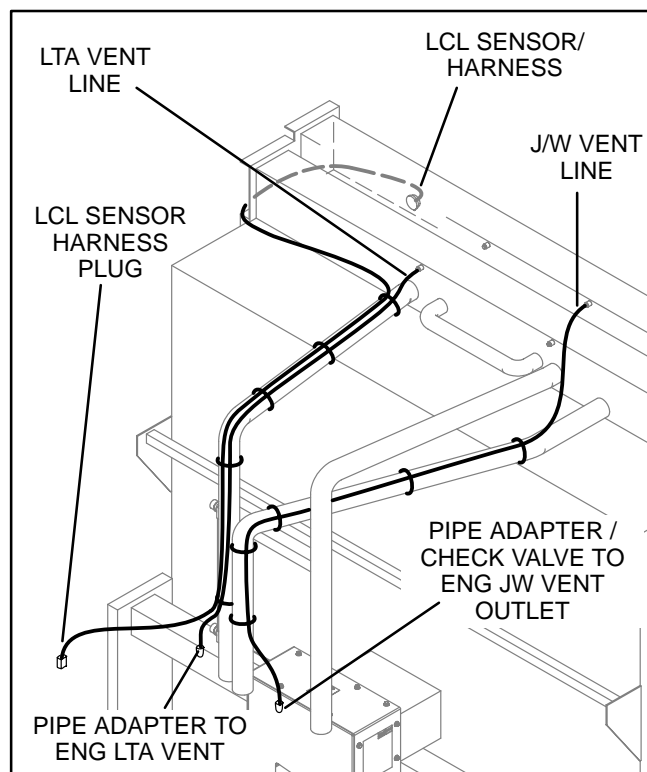

FIGURE 9-3. VENT PIPES/LOW COOLANT LEVEL SENSOR
1. Connect the vent line hoses. Be sure to install the check valve as shown in Figure 9-3.
4. Secure the vent pipes and harness to the radiator tubes with cable ties as shown in Figure 9-3.
Loosen the vent line at the engine jacket water (JW) vent outlet located on top of the engine thermostat housing (Figure 9-3).